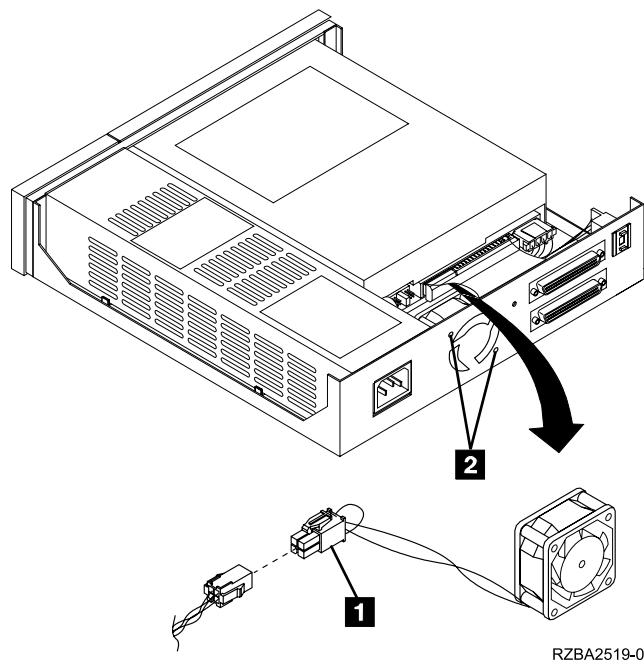

Figure 13. Removing and Replacing the Cooling Fan
2. Disconnect the power supply connector (J2) (**1** in Figure 13) between the power supply and the cooling fan.